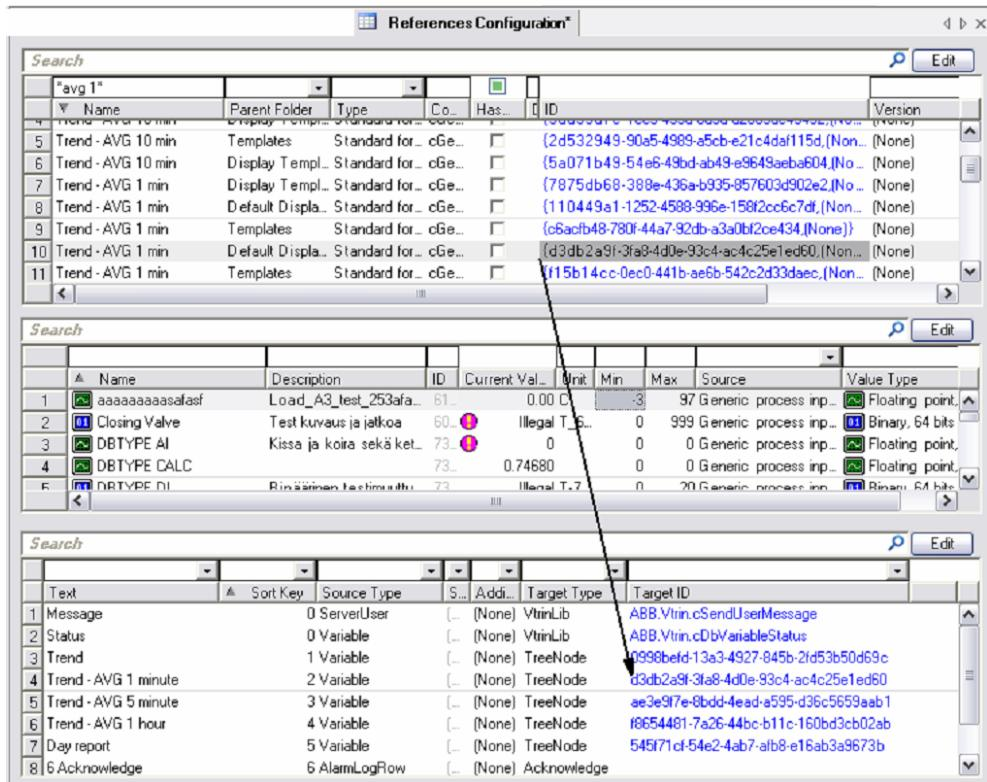

Figure 47: Defining references
- Fetch the desired variable to middle display (for example SYS\_CPU0\_Time, like in Figure 47).
- Fetch the desired view to the upper display (for example CPU load and CPU current, like in Figure 47).
- It is now possible to check in the **Variables** window that the windows that were connected to the variable are shown in the pop-up menu when the variable is first right-clicked and **Send To** is selected, as shown in Figure 47.